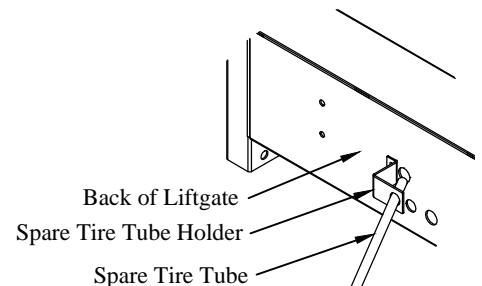

Figure 10: Spare tire tube holder.
4. **Position** the spare tire tube holder on the spare tire tube (Figure 10).
6. **Position** the spare tire tube holder against the liftgate (Figure 10). The spare tire tube should extend through the 1" hole of the tube holder.
7. **Mark** two (2) 1/4" hole locations on the liftgate using the tube holder as a guide.
9. **Drill** two (2) 1/4" holes in the positions previously marked.
10. **Fasten** the tube holder with the supplied two (2) 1/4" hex bolts and nuts.